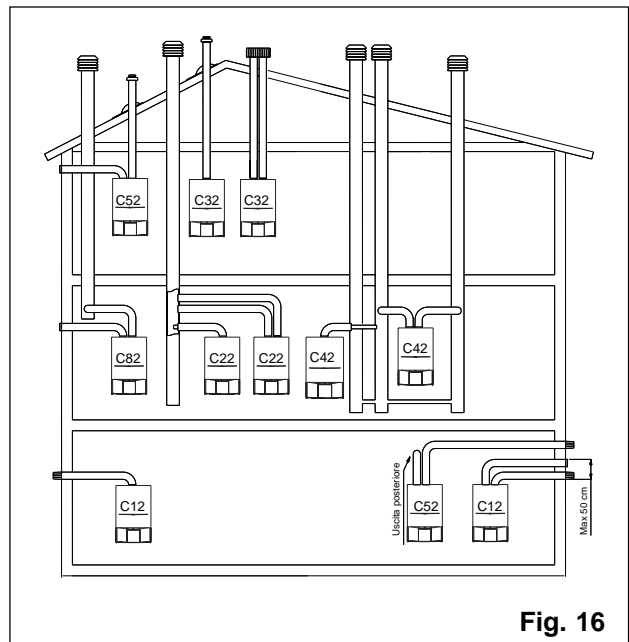

Fig. 16
**Exhaustion configuration available (fig. 16)**